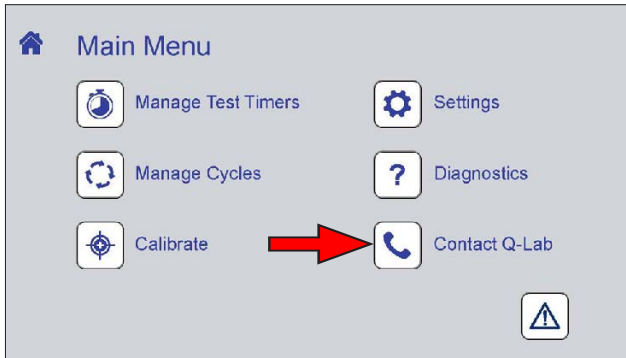

Figure 9.9a: Touch the Contact icon on the Main Menu screen to display Q-Lab contact information.
- Touch the Contact Q-Lab icon on the Menu Screen (Figure 9.9a).